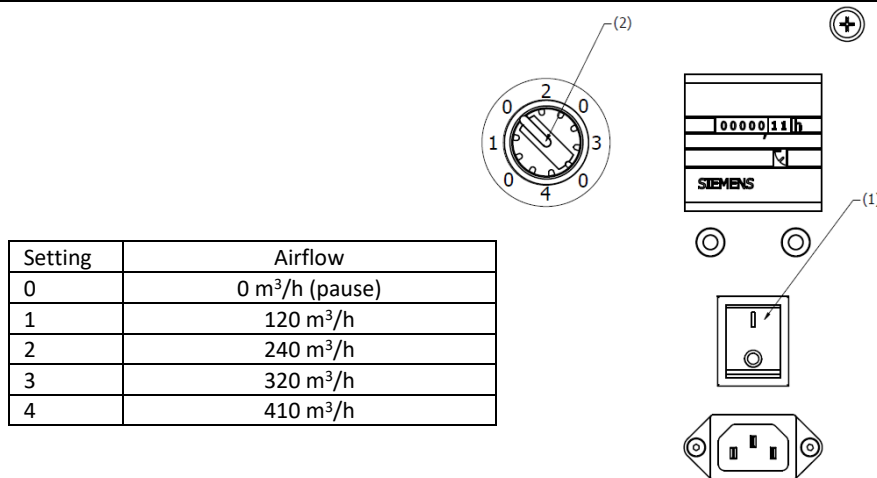

Fig. 5. Device start-up.
- Press the ON button of the device (1) and then set the expected level of performance of the device with the potentiometer (2) as shown in fig. 5.